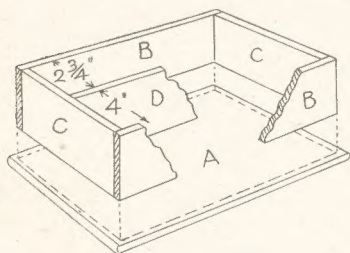

Fig. 2—Box construction
There is, however, no need to have an opening front, as the inside is easily got at by raising the main top lid. The whole construction of the box is very simple, as Fig. 2 will show, and here are given the various parts all lettered up corresponding with the cutting list which is given at the end of this article.
The actual box measures 12 ins. long by 7½ ins. wide by 3 ins. deep. These dimensions, of course, may be varied to suit any particular size or shape dressing table or bed-side table. The box, as can be seen from Fig. 2 consists of floor (A), two sides (B), two ends (C), partition (D), the lid (E) and (F), and a pediment rail (G).